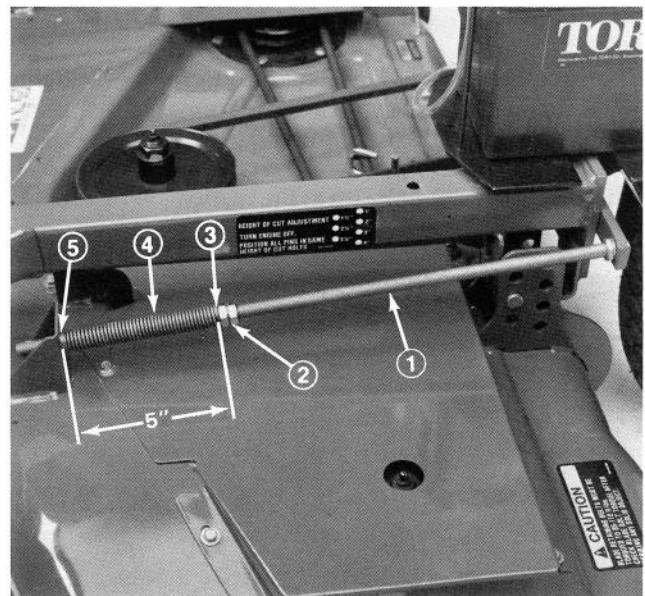

Figure 4
2. Thread two (2) jam nuts on each adjusting shaft approximately 9 in. (Fig. 4).
4. Insert spring end of adjusting shaft into hole in deck mounting bracket and other end into carrier frame mounting tab. Small end of bushing fits into hole in deck bracket (Fig. 4).
5. To tension belt, tighten front jam nut on each adjusting shaft until springs are compressed to 5 in. Measure between washer and bushing (Fig. 4). Secure rear jam nuts.